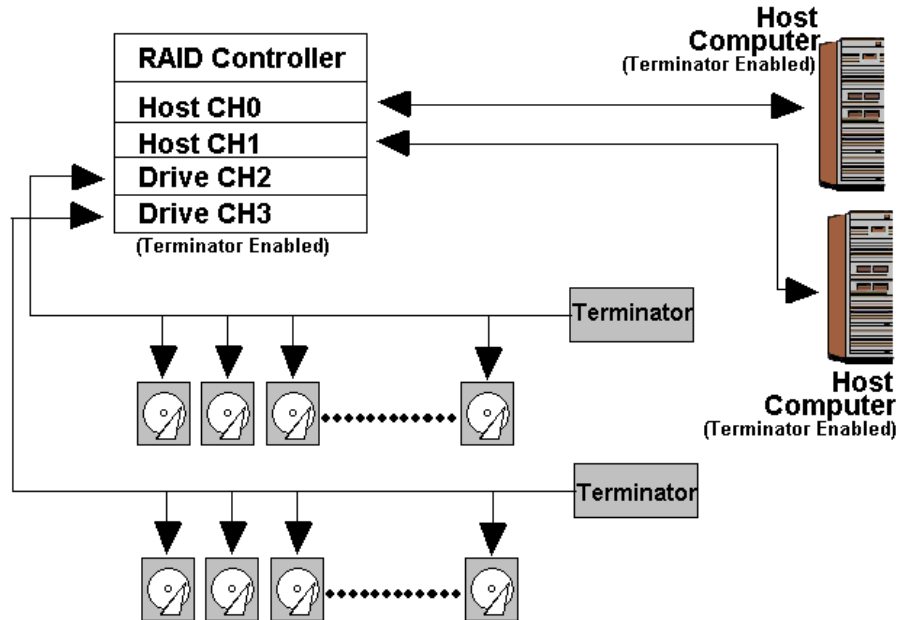

Figure 4-2: Dual host Connection
In Figure 4-2 the two channels (CH0 and CH1) are configured as host channels and two channels (CH2 and CH3) are configured as drive channels. The firmware (FW) can be used to create LDs. These LDs must in turn be mapped to the host channel.